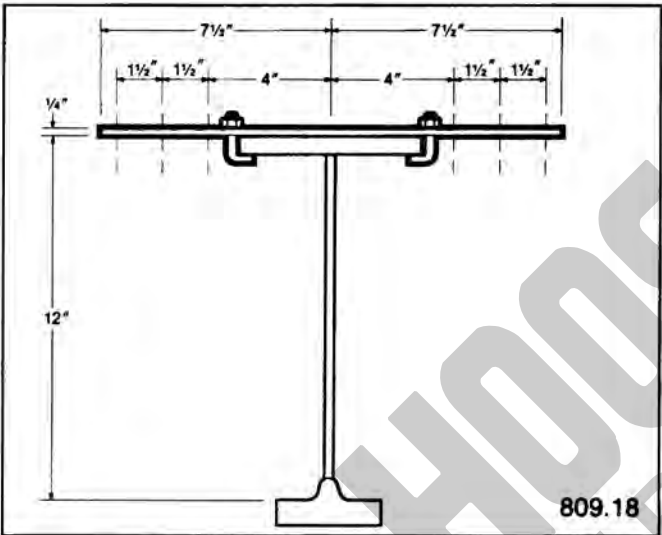

FIGURE 40
- 809.18 (Refer to Figure 40): For up to 8-wire (4-run) dual conductor bottom-entry electrification or 6-wire single conductor bottom-entry electrification at 12" above operating flange surface of 604.1231 *SuperTrack™ Girder* or 605.1235 *TrojanTrack™ Girder*.